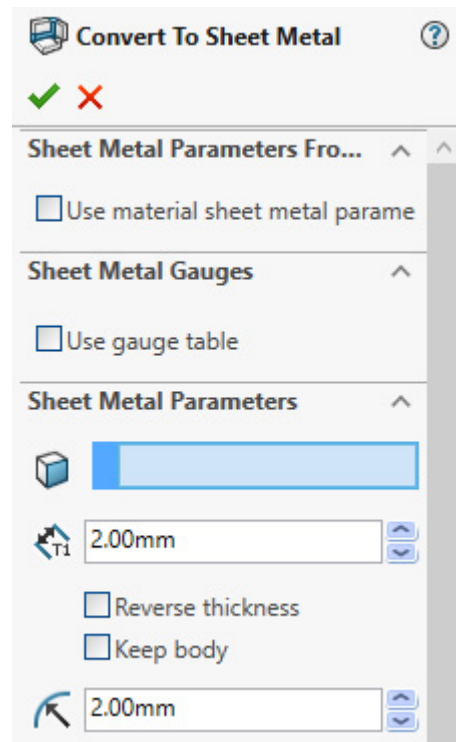

Figure 12.3: Setting the Sheet Metal parameters
4. The workflow is quite similar to the **Insert Bends** tool from the previous chapter. First, we need to set the parameters that we will use for the Sheet Metal *part*, and then select a **Fixed Face** (Figure 12.3).